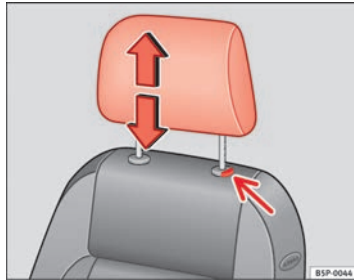

Fig. 71 Adjusting and removing the head restraints
- Press the button ⇒ Fig. 71 (arrow).